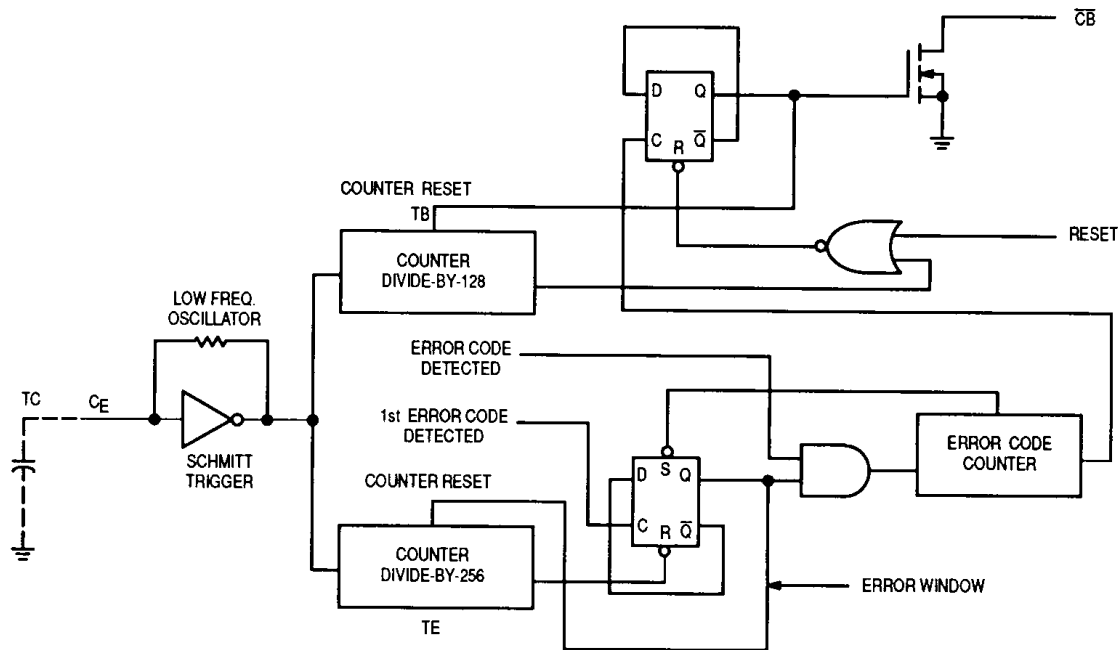

Figure 8. Error Window TE and Code Break Window Generator TB
If only one error code is detected within the window, the window period is automatically extended from the last invalid word to check if there are two or more error codes. If so, the code break signal is activated; if not, TE is closed after a defined period. See Figures 8 and 11.
TE and TB are generated from a schmitt-trigger low frequency oscillator of which the period (TC) is controlled by the timing capacitor C_E. The period of this low frequency oscillator is defined as TC as indicated in Figure 8.